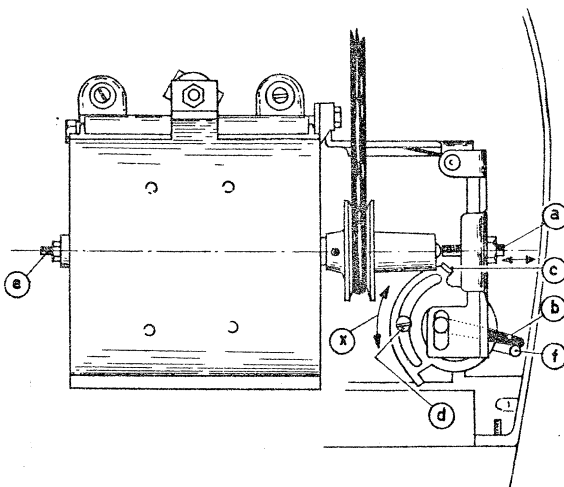

Fig.1
## (E) Adjustment of Running Speeds fig. 1